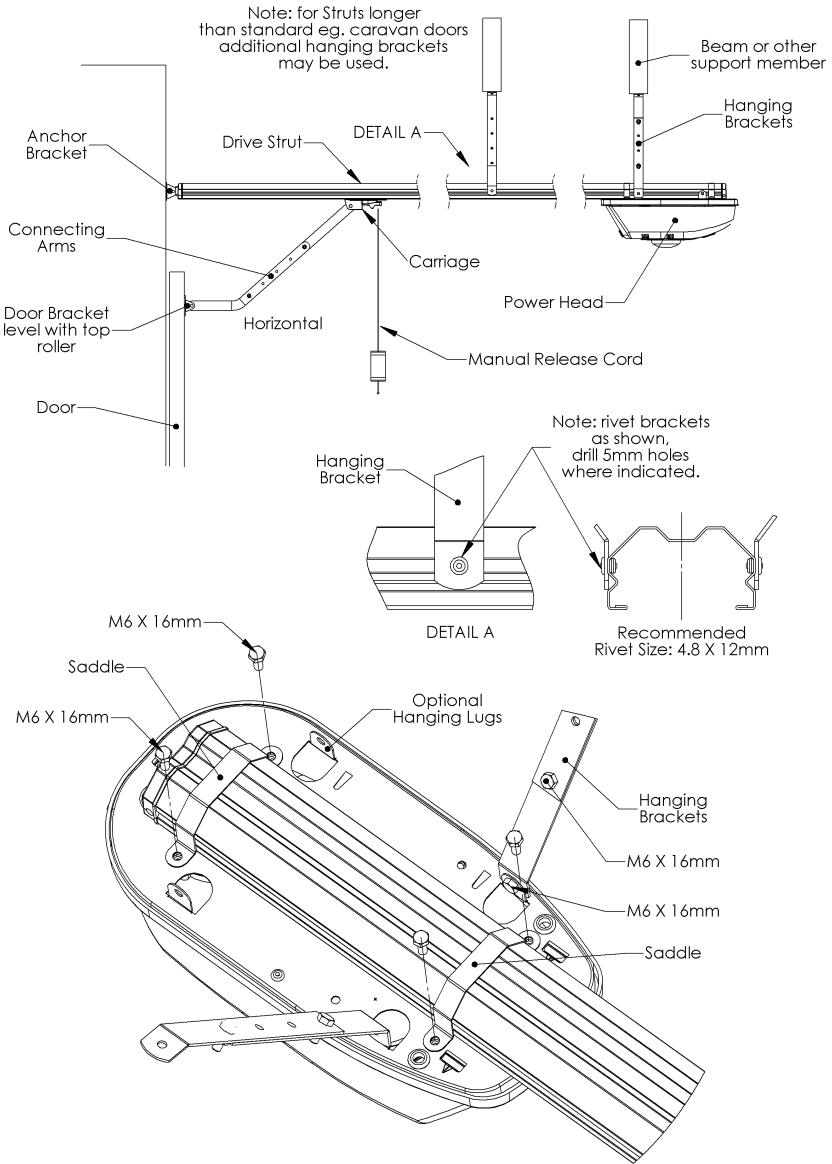

Fig. 2
2. While aligning the motor shaft with the sprocket, fit the strut to the power head. Fit the two mounting saddles and secure them with the M6 bolts provided. See Fig. 2